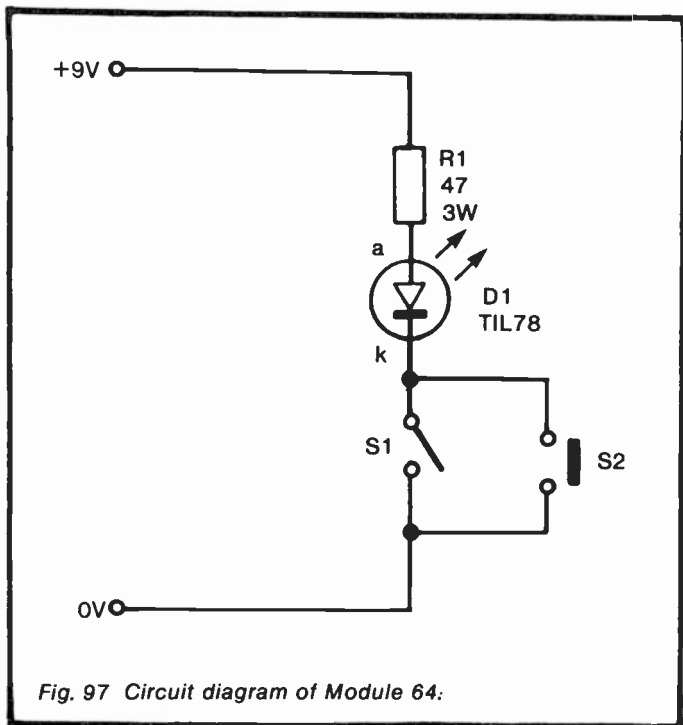

Fig. 97 Circuit diagram of Module 64:
*Circuit diagram:* see Figure 97.